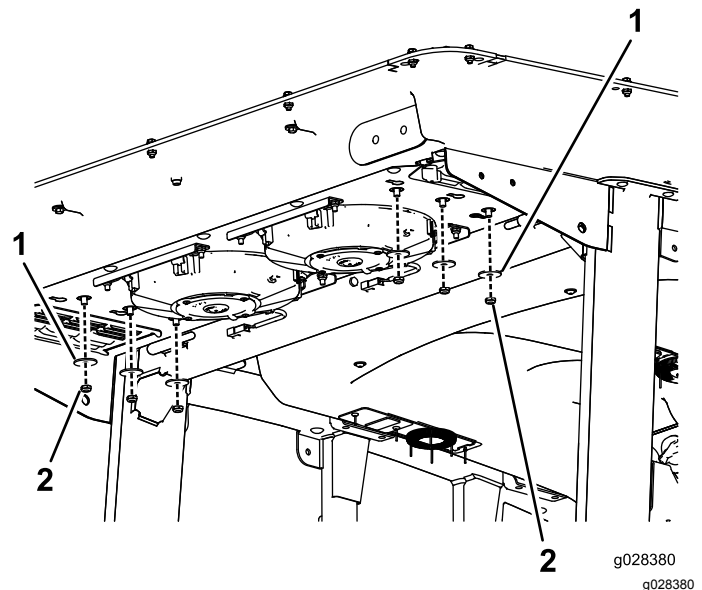

Figure 136
2. Remove the 6 nuts and washers from the bottom of the rear of the cab (Figure 136).